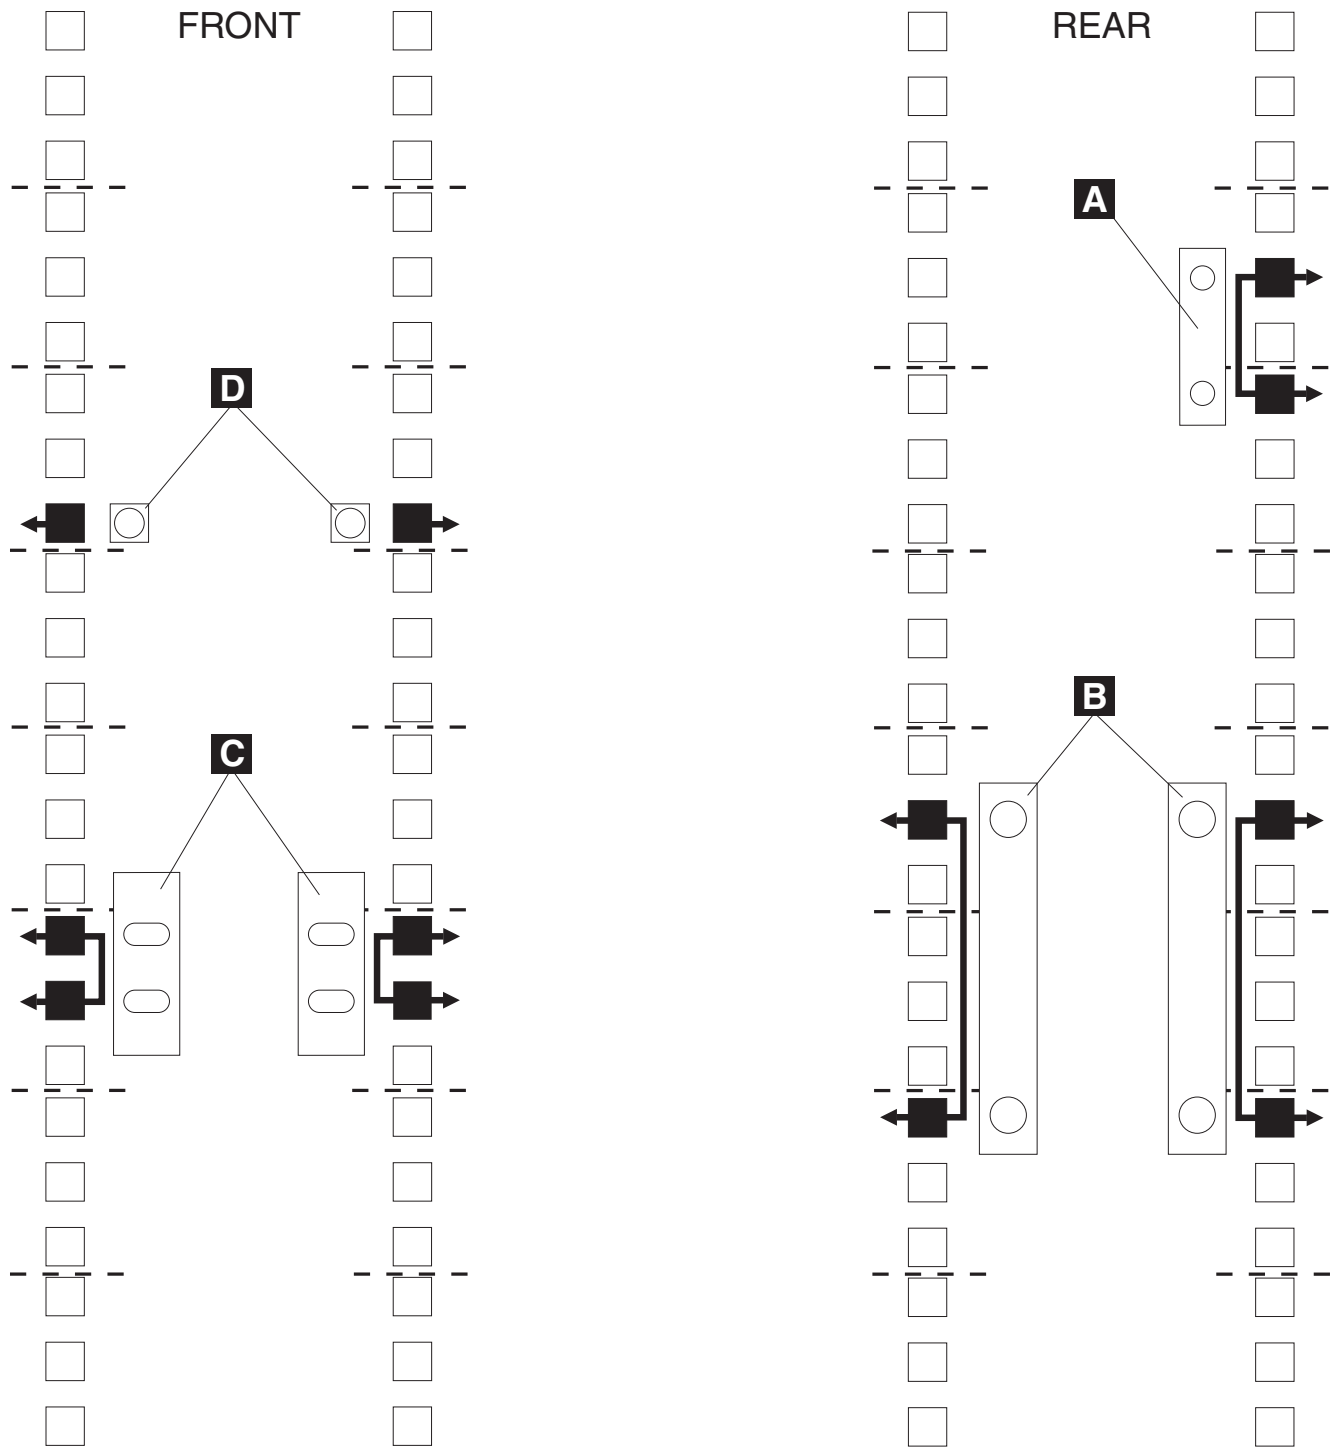

Figure 13. Locating cage nuts or clip nuts on the front and rear of a rack cabinet
**Note:** The rack installation template contains full instructions to complete server installation. Steps are repeated here in case your template is not available. See Figure 13 on page 13 for cage nut or clip nut locations on the front (release latch retaining screws **D** and slide rails **C**) and rear (cable-management arm hinge bracket **A** and slide rails **B**) of your rack.